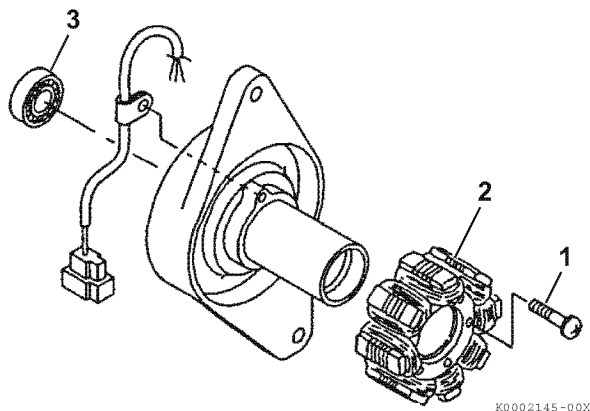

Figure 11-26
4. Remove the screws (Figure 11-26, (1)) and the stator assembly (Figure 11-26, (2)).
5. Remove the rear bearing (Figure 11-26, (3)).
1. Install the rear bearing (Figure 11-26, (3)).
2. Install the stator (Figure 11-26, (2)).
3. Install screws (Figure 11-26, (1)).